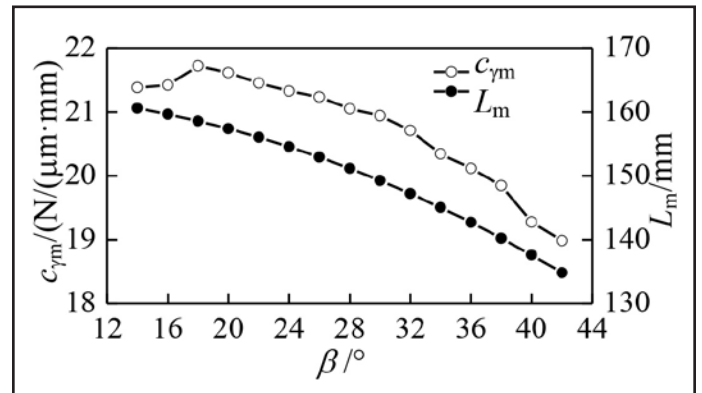

Figure 6 The  $c_{ym}$  and  $L_m$  vs. different helix angles  $\beta$ .
**Helix angle.** Figure 6 shows the effect of helix angle  $\beta$  on the mean value of mesh stiffness  $c_{ym}$  and contact-line length  $L_m$ . The helix angle  $\beta$  is varied from  $14^\circ - 42^\circ$ . It is seen that the mean values of mesh stiffness and lengths of contact lines decrease in the same trend while helix angle  $\beta$  increases.